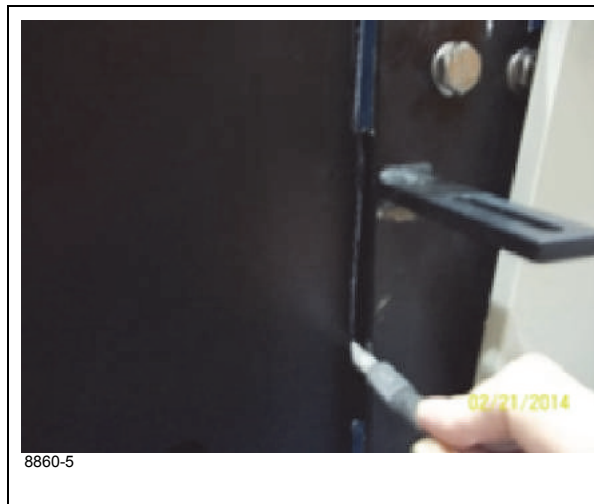

FIGURE 4-5
1. Mark the front of each section with a chalk line as indicated in Figure 4-5.